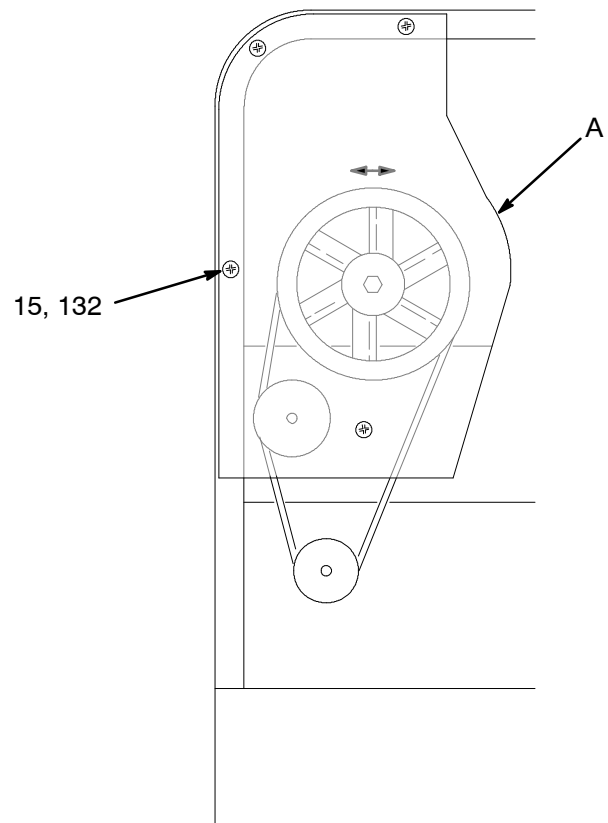

Fig. 16
1. Loosen four nuts (24) and bolts (23) at base of air compressor.
3. Remove four nuts (15) and bolts (132) from rear plate (A) on hitch side of frame. Remove plate.
4. Remove two bolts (30) and washers (31 and 32) from left and right sides of hydraulic pump.
5. Remove two bolts (13 and 115) from plate (108) behind pump. Remove plate.
7. Push down new belt from top. Push hydraulic pump in, and install belt. Thread belt around idler and bottom drive pulley, and install on compressor pulley. Fig. 16.
9. Install plate (108) behind pump with two bolts (13 and 115).
10. Install two bolts (30) and washers (31 and 32) to left and right sides of hydraulic pump.
12. Tighten four nuts (24) and bolts (23) at base of air compressor.
13. Install rear plate. Secure plate on hitch side of frame with four nuts (15) and bolts (132).
- Place air compressor (22) over slots on cart for compressor. Loosely install four nuts (24) and bolts (23) to base of compressor.
- Push down new belt from top. Push hydraulic pump in, and install belt. Thread belt around idler and bottom drive pulley, and install on compressor pulley. Fig. 16.
- Install plate (108) behind pump with two bolts (13 and 115).
- Install two bolts (30) and washers (31 and 32) to left and right sides of hydraulic pump.
- Tighten four nuts (24) and bolts (23) at base of air compressor.
- Install rear plate. Secure plate on hitch side of frame with four nuts (15) and bolts (132).
2. Be sure vee belt (19) is in place. Thread belt around idler and bottom drive pulley (see Fig. 16 on page 22). Push engine in, and install to other half of coupler (16) on hydraulic vane pump.
3. Install four locknuts (15), eight washers (21), and four capscrews (14).
9. Push in hydraulic vane pump (33).
10. Install plate (108) behind hydraulic vane pump (33). Install with two bolts (13 and 115).
11. Install two bolts (30) and washers (31 and 32) to left and right sides of hydraulic vane pump (33).
12. Install rear plate (110) on hitch side of frame with four nuts (15) and bolts (132).